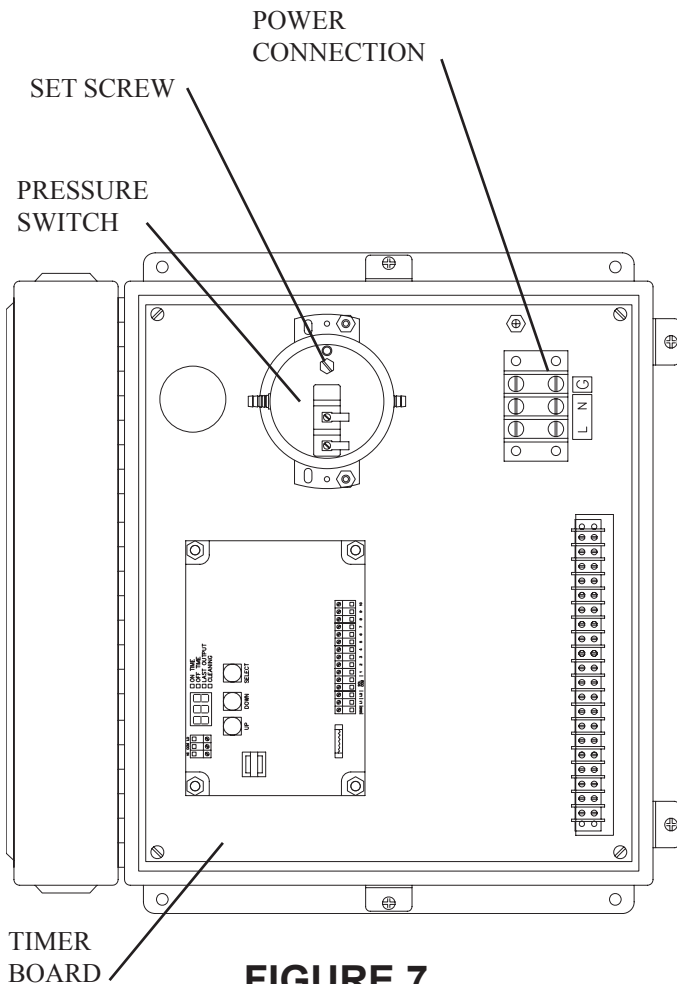

FIGURE 7
1. Open the electrical box cover located on the side of the unit. Make connections from your 120V supply power to terminal L, N and G (see figure 7).